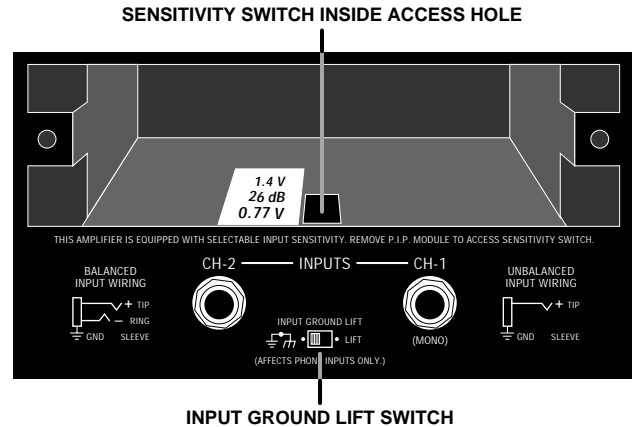

Fig. 4.3 Input Sensitivity and Ground Lift Switches
The **Input Sensitivity Switch** is located inside the back of the amplifier (Figure 4.3). It is set at the factory to 0.775 volts for rated output into 8 ohms. It can also be switched to a sensitivity of 1.4 volts, or a fixed voltage gain of 26 dB (4.8 volts for rated output).
3. Locate the sensitivity switch access hole inside the chassis opening as shown in Figure 4.3. It is located just above the phone jack inputs.
The **Input Ground Lift switch** is located on the rear panel (Figure 4.3) and can provide isolation between the input signal ground and the AC ground. It affects only the phone jack inputs and has no affect on the input connectors on the *P.I.P.* module. Sliding the switch to the left isolates or "lifts" the grounds by placing an impedance between the sleeve of each phone jack and the circuit ground.